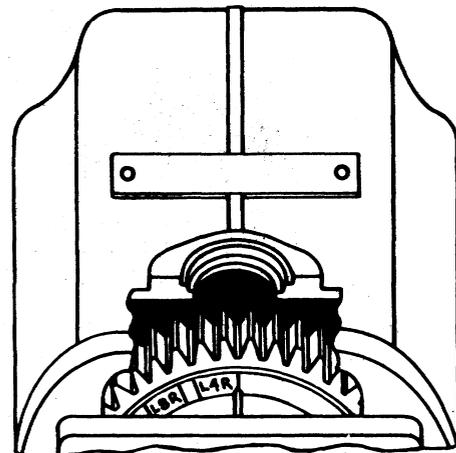

Figure 3. Alignment of Timing Marks on Distributor Gear – 4 Cylinder, Right Hand Rotation
- a. Four and eight cylinder, all types – The timing rib on the distributor block **MUST** align within 1/2 tooth either side of the "L" or "R" mark on the gear, depending on magneto rotation. (See figure 3.)